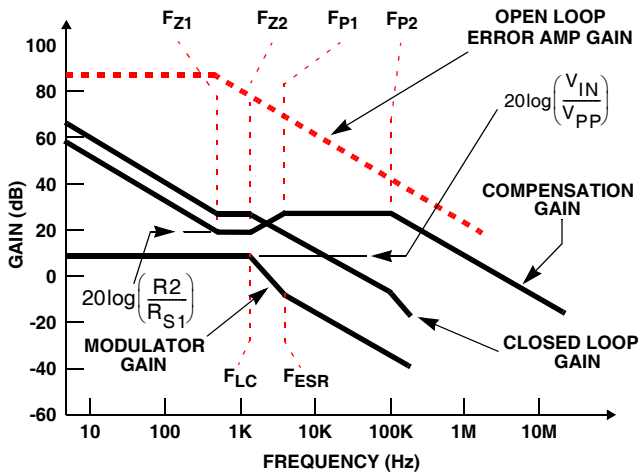

FIGURE 6. ASYMPTOTIC BODE PLOT OF CONVERTER GAIN
The compensation network consists of the error amplifier (internal to the ISL6432) and the impedance networks Z_{IN} and Z_{FB} . The goal of the compensation network is to provide a closed loop transfer function with high 0dB crossing frequency (f_{0dB}) and adequate phase margin. Phase margin is the difference between the closed loop phase at f_{0dB} and 180 degrees. The equations below relate the compensation network's poles, zeros and gain to the components ($R1$, $R2$, $R3$, $C1$, $C2$, and $C3$) in Figure 6. Use these guidelines for locating the poles and zeros of the compensation network:
Figure 6 shows an asymptotic plot of the DC-DC converter's gain vs. frequency. The actual Modulator Gain has a high gain peak dependent on the quality factor (Q) of the output filter, which is not shown in Figure 6. Using the above guidelines should yield a Compensation Gain similar to the curve plotted. The open loop error amplifier gain bounds the compensation gain. Check the compensation gain at F_{P2} with the capabilities of the error amplifier. The Closed Loop Gain is constructed on the log-log graph of Figure 10 by adding the Modulator Gain (in dB) to the Compensation Gain (in dB). This is equivalent to multiplying the modulator transfer function to the compensation transfer function and plotting the gain.